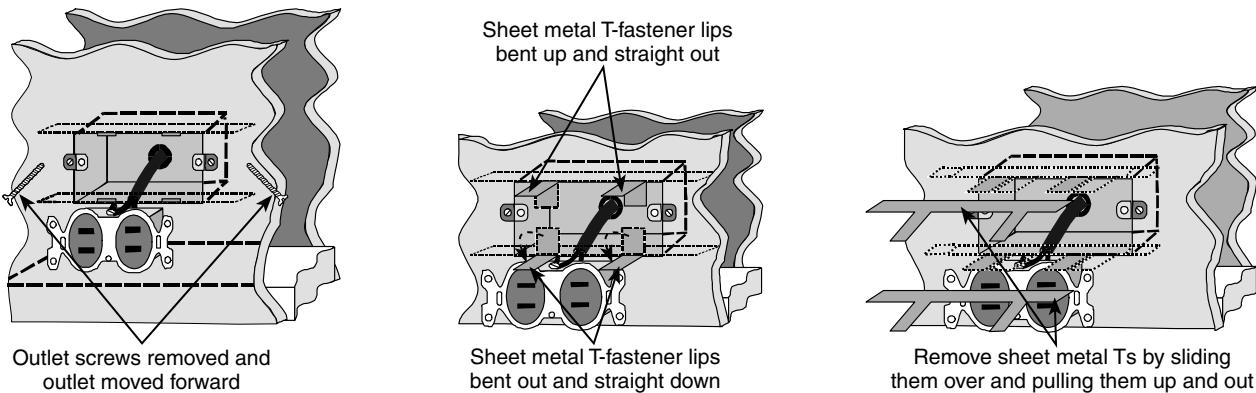

Figure 8-22
- Turn off the power to the outlet, take out the outlet screws and move the outlet out of the box. For these next few steps, look at the illustration in Figure 8-22.